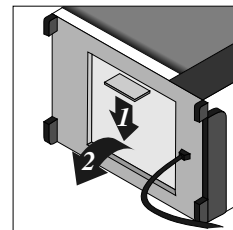

Fig. 13
For easier cleaning of inside walls and especially the inside bottom, ease the oven on its back and open the bottom access panel (B) by pushing down on the handle, as shown in figure 13. **After cleaning, always close panel (B) properly.**